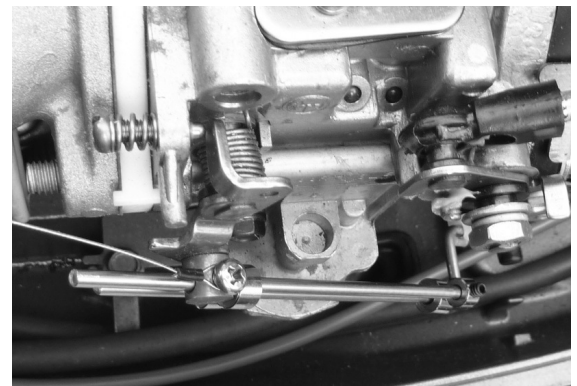

Figure 4
- Put carb fitting set screw through looped end of supplied cable assembly. Install set screw into carb fitting - do not tighten. See Figures 4 & 5.